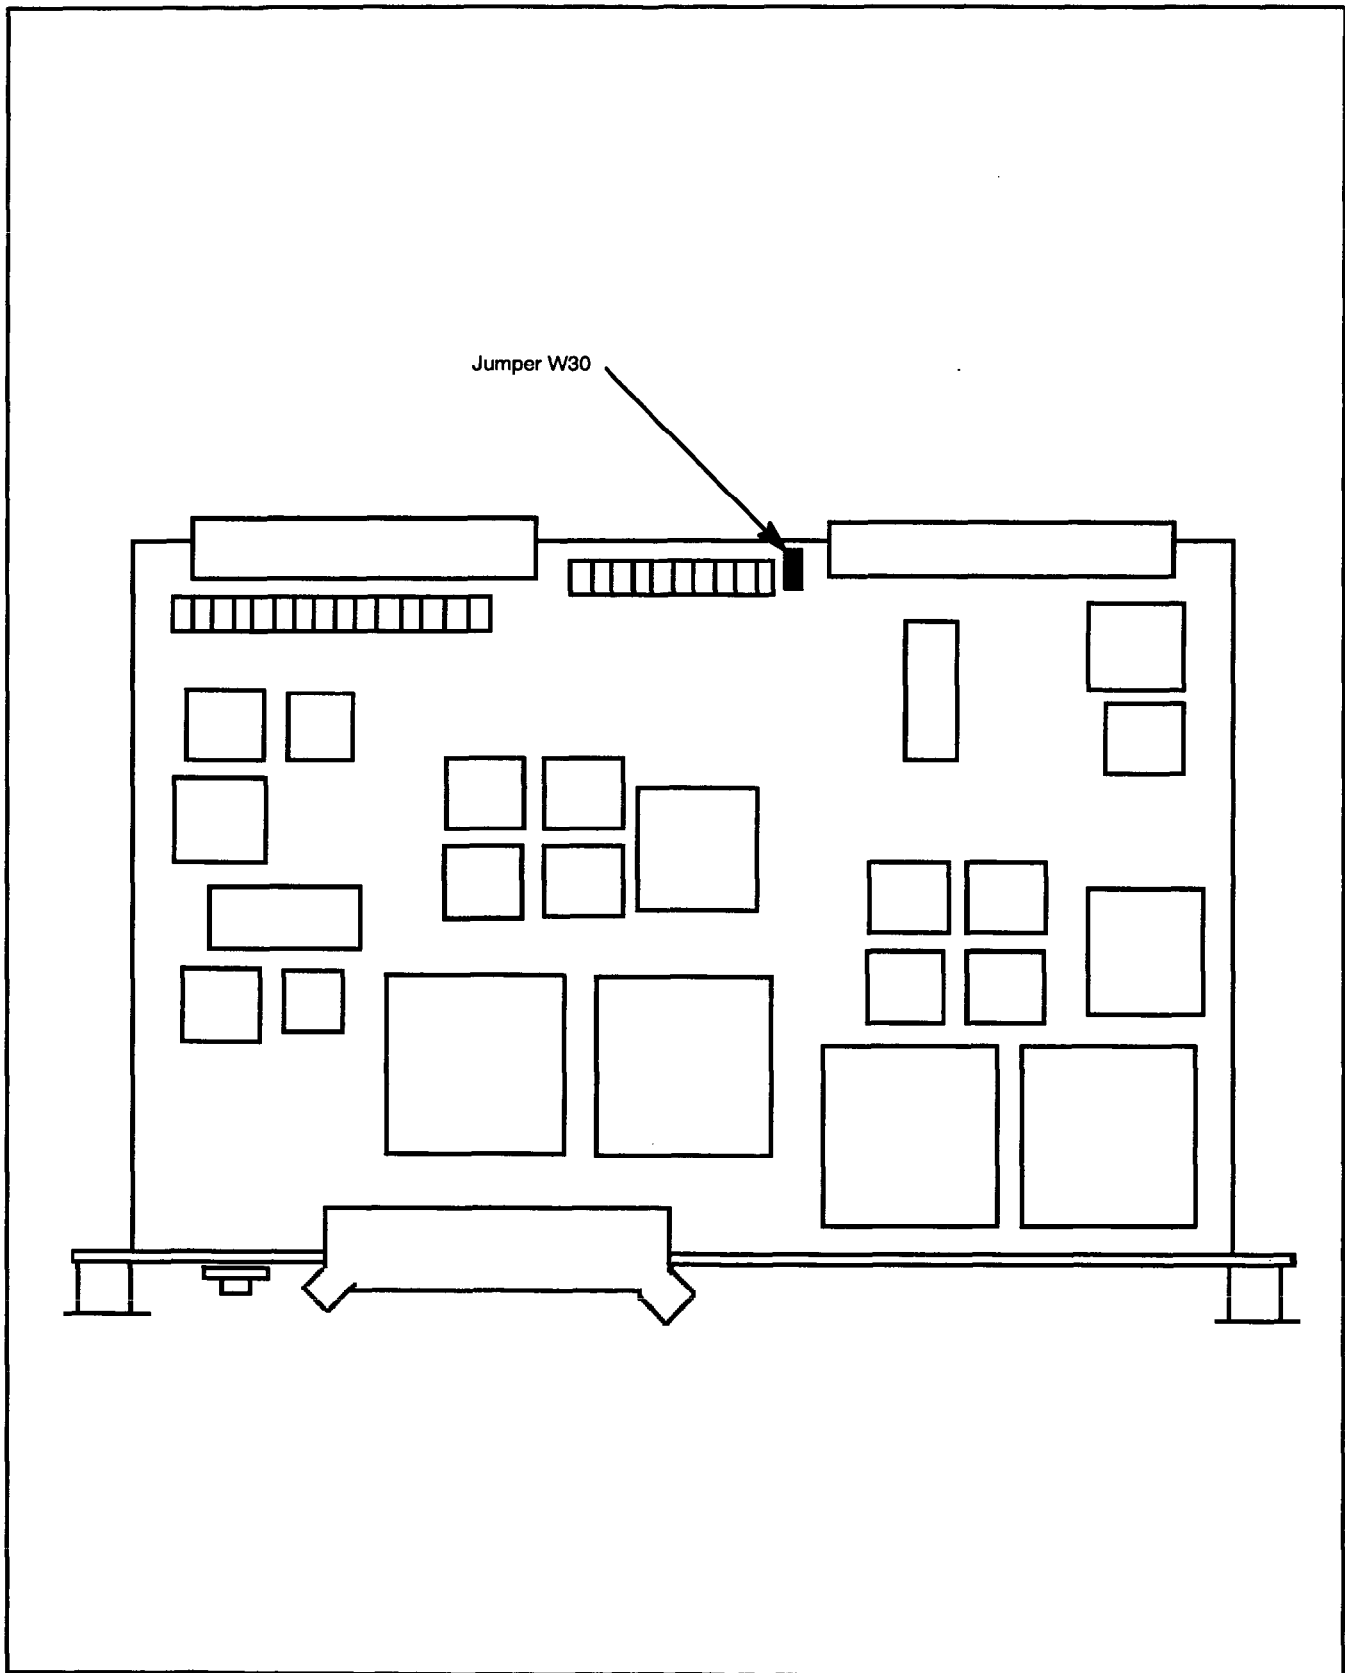

Figure 3. TRANSEC CCA 1A3
9. Before installing the TRANSEC CCA 1A3 for the first time, ensure jumper W30 is set to the W30 IN position to enable the 30-minute timeout. Crypto keys will be zeroized 30 minutes after Modem R/T power is removed. (figure 3)